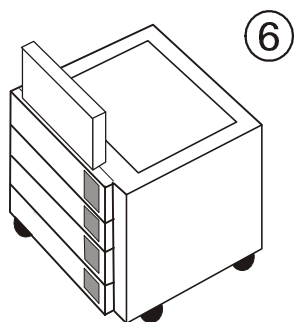

Fig. 4 Stand up TowerFeed and remove plastic
- Stand up the TowerFeed unit ⑥ (Fig. 4).